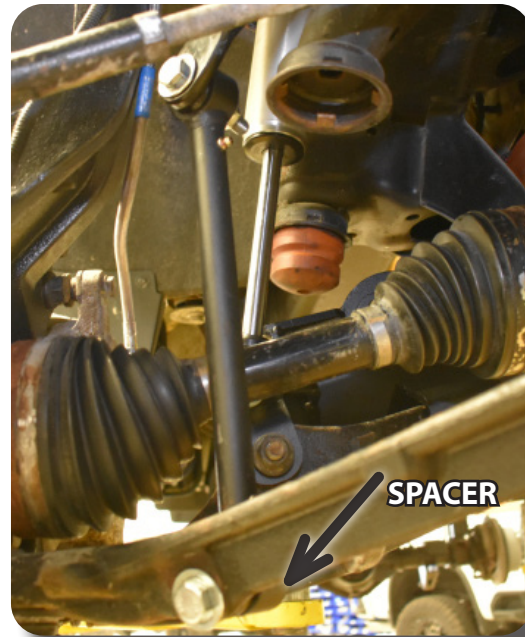
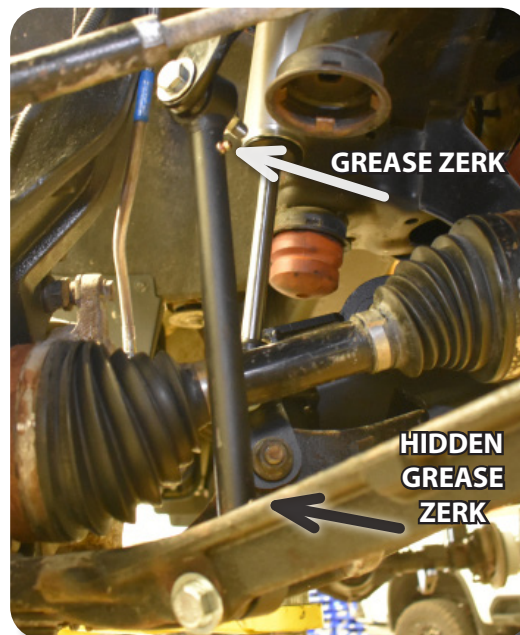

Figure 2
Figure 3
4. Install longer sleeve with the offset spacer sandwiched between the bushing and control arm to the lower control arm on the INSIDE of the control arm using the provided 12mm x 80mm bolt, 7/16" USS Flat washer, and 12mm prevailing torque nut (Bolt Pack) (Fig 2). Ensure grease zerks face front of the vehicle (Fig 3, pg 2).